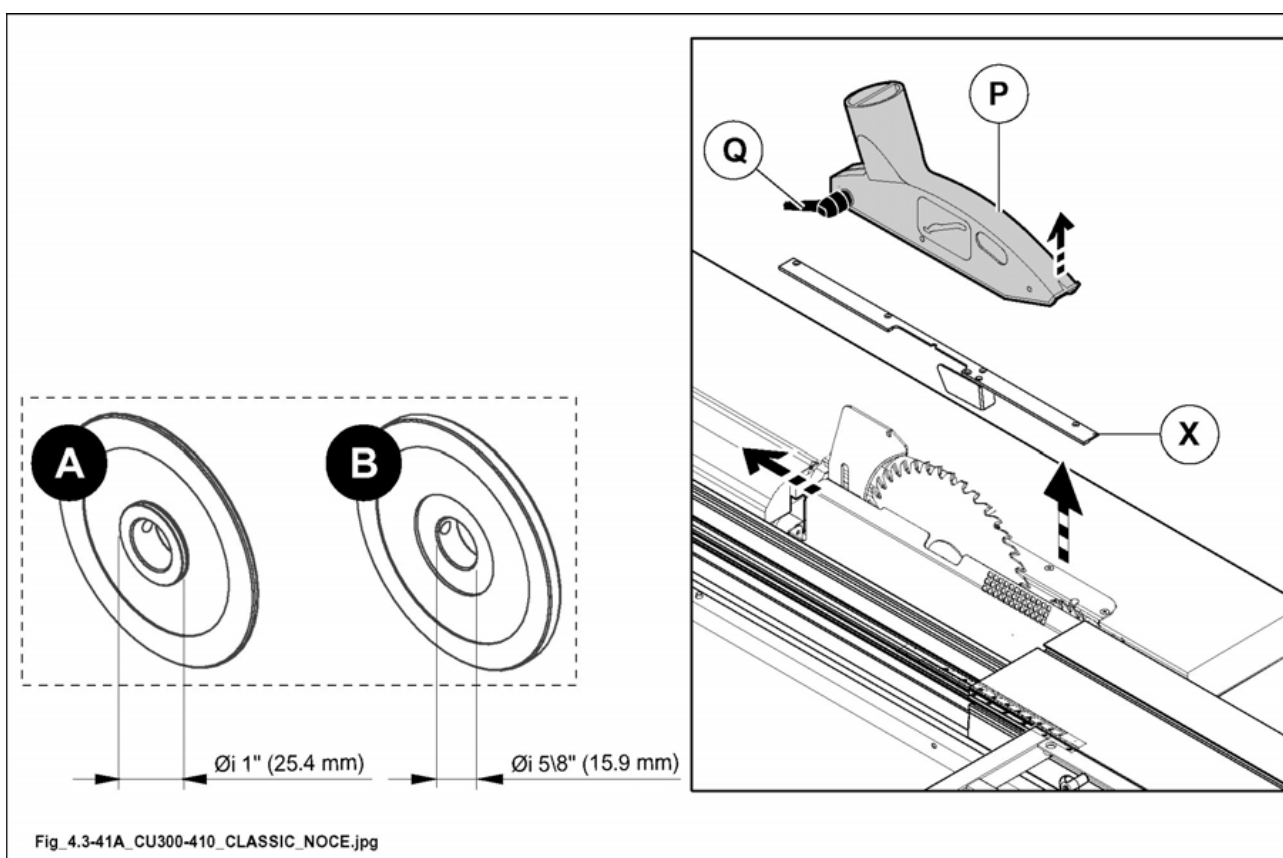

Fig. 4.3-41A
- Remove protection (P fig. 4.3-41A) by loosening handle (Q fig. 4.3-41A).
- Proceed with assembling and disassembling the saw blade as described in paragraph; to extract the blade remove the hole cover (X fig. 4.3-41A) and remount it before tightening.
- Remount protection (P fig. 4.3-41A).
the guard (P fig. 4.3-41A) must always be mounted and must be positioned in such a way as to completely cover the tool.